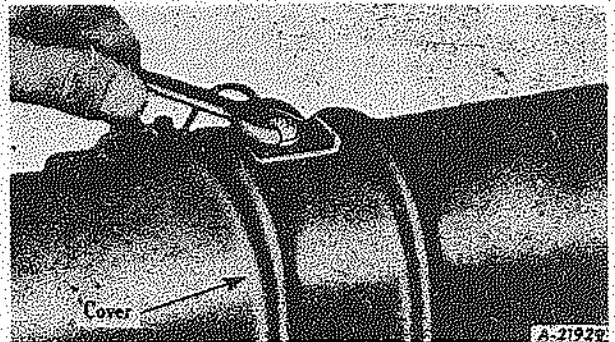

Fig. 3
1. Remove three capscrews from rocker arm cover and remove cover (Fig. 3).